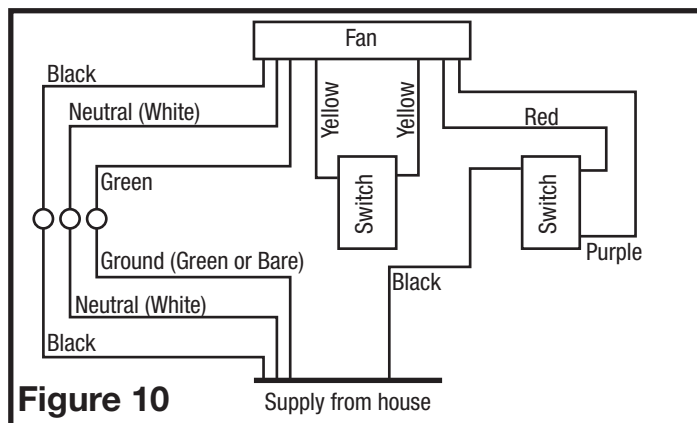

Figure 10
4. Secure the electrical wires to the housing with an approved electrical connector. For two speed fans wired for continuous ventilation, connect the White wire of the fan to the White (Neutral) wire from the power source. Connect the ground wire from the house to the green wire from the fan housing. Connect the Black wire of the fan to the Black wire (Hot) from the power source. The fan will operate on low speed continuously and boost to high upon a rise in humidity. Using a properly grounded switch, connect 1 yellow wire to each side of the switch. Closing the switch will change from normal to high speed. Using a properly grounded standard duplex toggle switch (such as Leviton 5224-2W, not included) connect the Black wire from the supply to one side of the top and bottom switch. Connect the Red wire (light) from the fan housing to the other side of the top switch and connect the Purple wire (night light) from the fan housing to the other side of the bottom switch. A manual override switch (not included) can be used to provide a manual fan Off function (Figure 10).